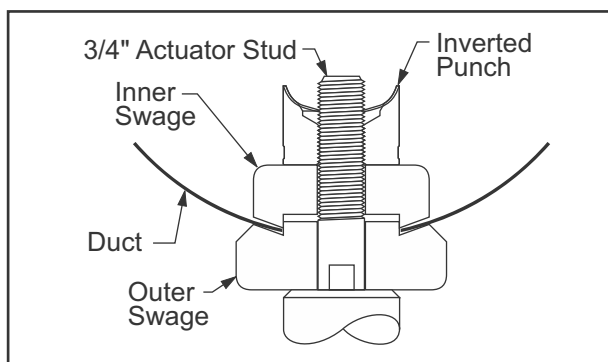

Fig. 33: 60mm Swage Configuration
4. Swage Hole: Slide the 60mm outer swage tool onto the 3/4" actuator stud. Insert the actuator stud and outer swage tool into the 60mm hole. From inside the duct slide the matching inner swage tool onto the actuator stud. Invert and thread any one of the three punches onto the actuator stud (cutting surfaces facing away from the inner swage tool) until the inner swage tool, the duct and the outer swage tool are snug. Operate the hydraulic actuator to compress the swage tools together to form the swage. Loosen and remove the swage tool. (Fig. 33)